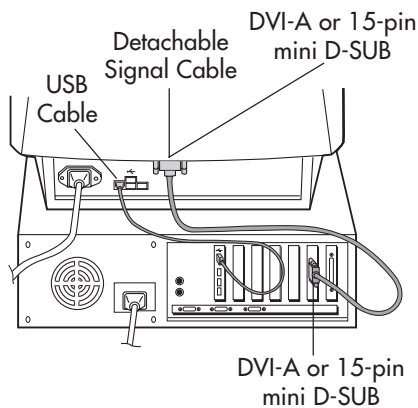

Figure A.1
3. For the PC with Analog output: Connect the 15-pin mini D-SUB to DVI signal cable to the connector of the display card in your system (**Figure A.1**).